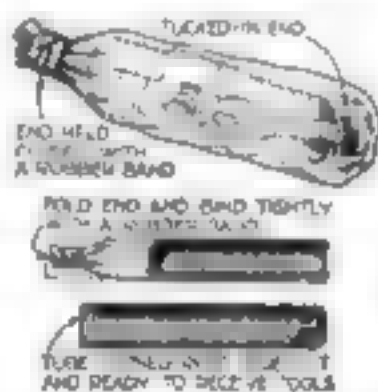

Fig. 3. A section of an old inner tube makes an excellent and serviceable holder for tools. It will not chew to pieces.
**T**HE very serviceable tool bag shown in Fig. 3 is made from a piece of an old inner tube. Cut the tube about  $1\frac{1}{2}$  times the length of the longest tool that you want to put in it and then turn it inside out as shown. Fold neatly and compactly at one end, and bind as tightly as possible with a heavy rubber band also cut from the old tube. Turn right side out again, and, after inserting tools, close the end with another rubber band.